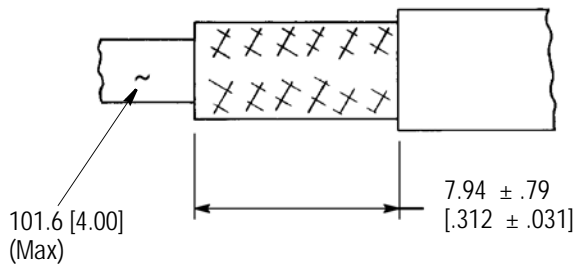

Figure 3
1. Strip the cable as shown in Figure 3.